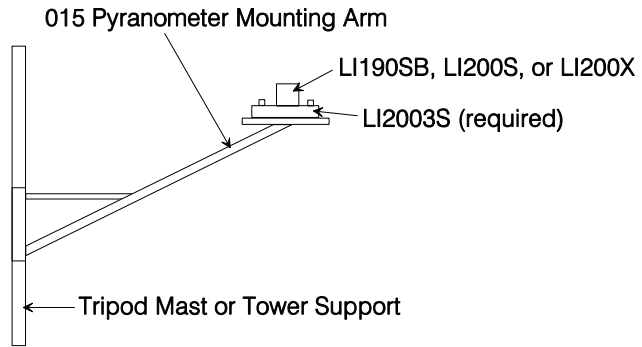

FIGURE 2-1. 015 Pyranometer Mounting Arm
To ensure accurate measurements, the LI200X should be mounted using LI2003S base/leveling fixture. This base incorporates a bubble level and three adjustment screws. The LI200X and base/leveling fixture are attached to a tripod or tower using one of three mounting configurations (see Figure 2-1 through 2-3).
- 1/2" open end wrench for 015ARM or CM225 (Figures 2-1, 2-3)